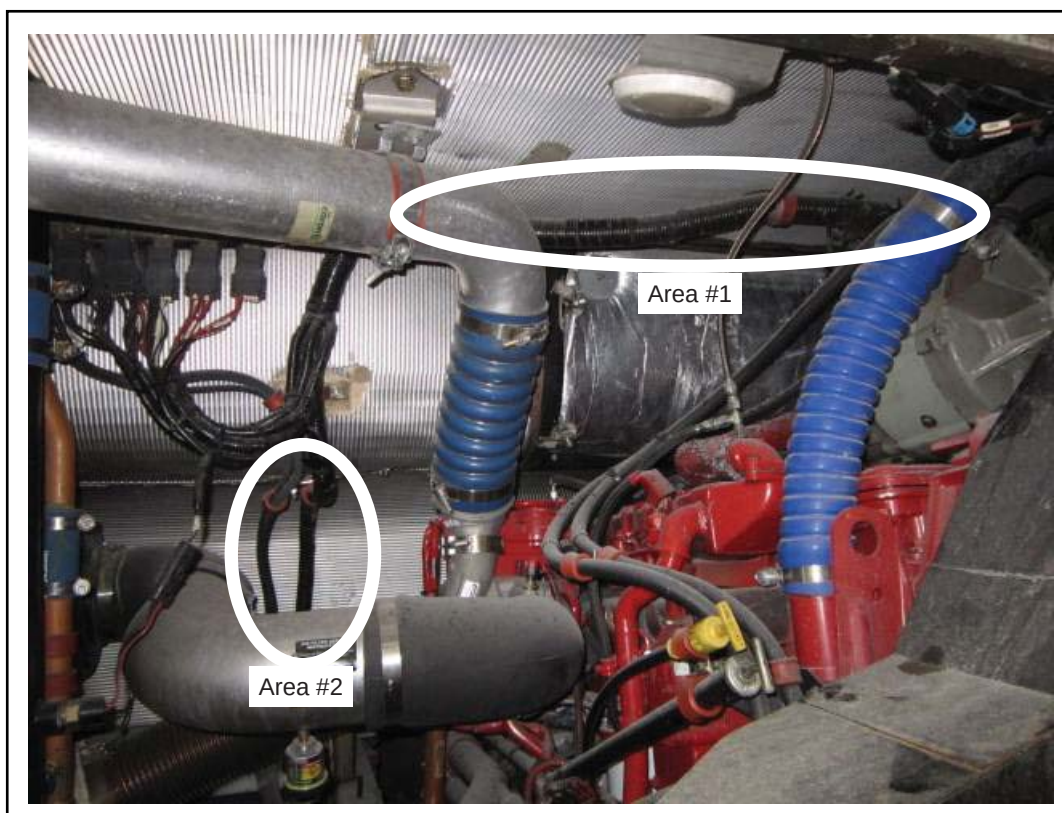

Figure 1 - Typical Locations to Look at on WHA 61 Electrical Harness (View from Engine Radiator Side)
- 1.5. Cut the blue zip ties on the WHA 61 electrical harness located in the two areas close to the engine turbo. See Figure 1.
- 1.6. Inspect the slit convoluted conduit in area #1. See Figure 1.
- 1.13. Inspect the slit convoluted conduit in area #2. See Figure 1.